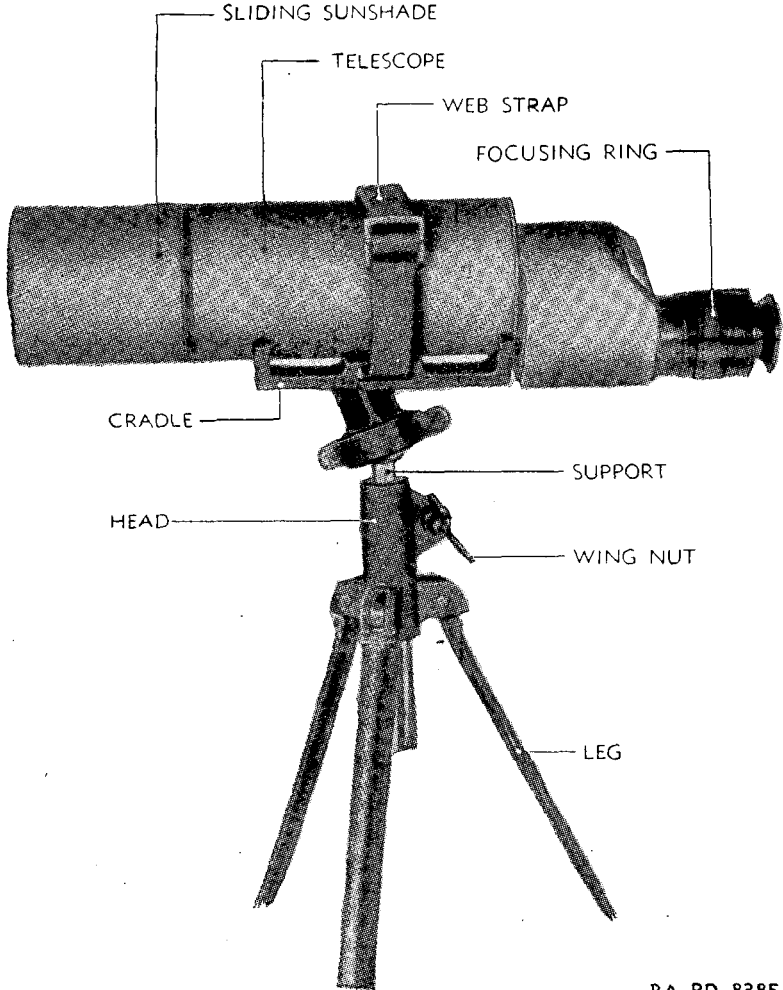

FIGURE 11. -Observation telescope M4.
8. **Telescope, observation, M4.**—*a. General.*—This telescope (figs. 11 and 12) is used for observation purposes by cavalry and in-
b. Description.—(1) The telescope (figs. 11 and 12) has 19.5-power magnification. The eyepiece has a knurled focusing nut. The sliding sunshade is secured to the objective end, and the objective itself is protected in travel by the objective cap which screws into the sunshade.
(2) The tripod (fig. 11) includes a cradle and web strap, ball and socket joint, spindle-shaped support, tripod head, and three legs. The cradle and web strap support and secure the telescope. The adjustable ball and socket permits pivoting, elevating, and depressing. The support may be raised or lowered. The hinged tripod legs support the telescope about one foot above the ground.
c. Operation.—The telescope is set up as shown in figure 11 with the objective cap and eyepiece cap removed. It is then pointed at the target and the eyepiece adjusted to bring the target into sharp focus.
d. Care and preservation.—(1) The telescope is sturdy but should not be carelessly handled.
(2) After exposure to rain or dampness wipe the telescope carefully before returning it to the carrying case.
(3) Keep the telescope in its case when not in use.